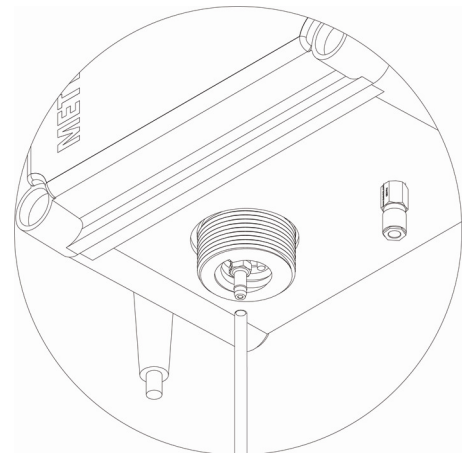

Figure 2. Suction Tube installation
10. Wearing clean protective gloves to avoid contamination, insert a silicone suction tube onto the suction fitting located in the bottle receptacle as shown in Figure 2. A fresh suction tube should be used for each calibration. Protective gloves and a replacement suction tube are provided with each solution kit.